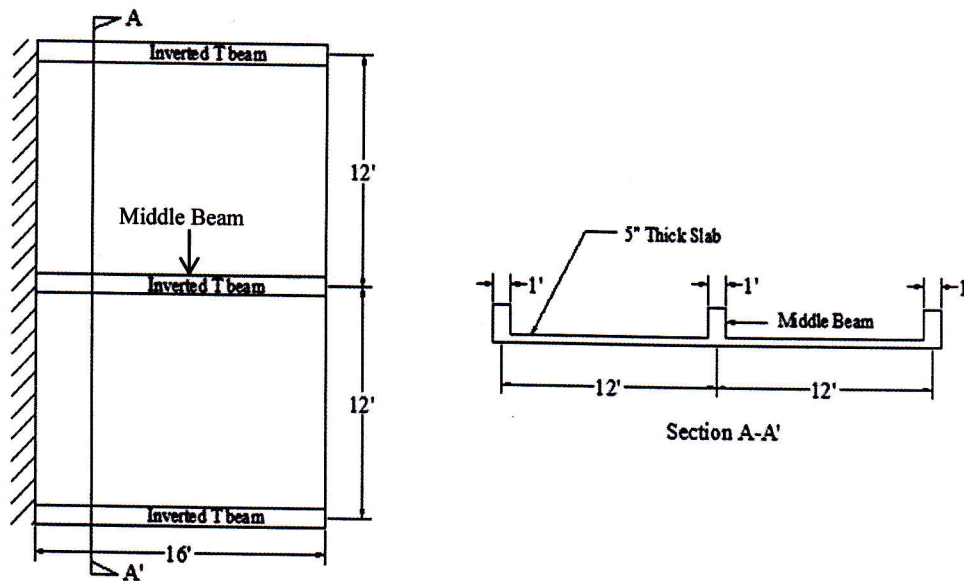

Figure 5
- (b) Explain why the maximum shear to be considered for design is computed at a distance of 'd' from the face of the support? (2)
6. A 5" thick slab is supported by 3 inverted beams as shown in Figure 5. The slab supports a floor finish (FF) = 25 psf and a live load = 100 psf. Design the middle beam for flexure. Use the USD method. Given,  $f'_c = 5$  ksi,  $f_y = 60$  ksi. (10)